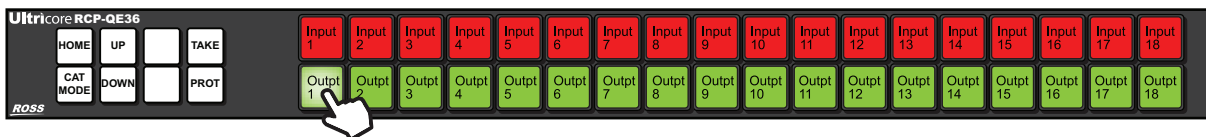

Figure 62 Selecting a Destination Button — Outpt1 Selected
**Figure 62** illustrates an RCP-QE36 panel where **Outpt1** is the selected destination.